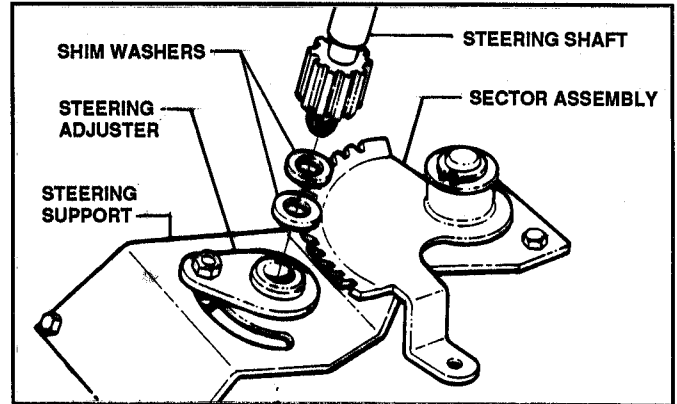

FIGURE 5.6
- (4) Remove tractor hood.*
- (5) After steering shaft has been pulled clear of steering adjuster, remove the shim washers from below gear on bottom of shaft. See Figure 5.6.